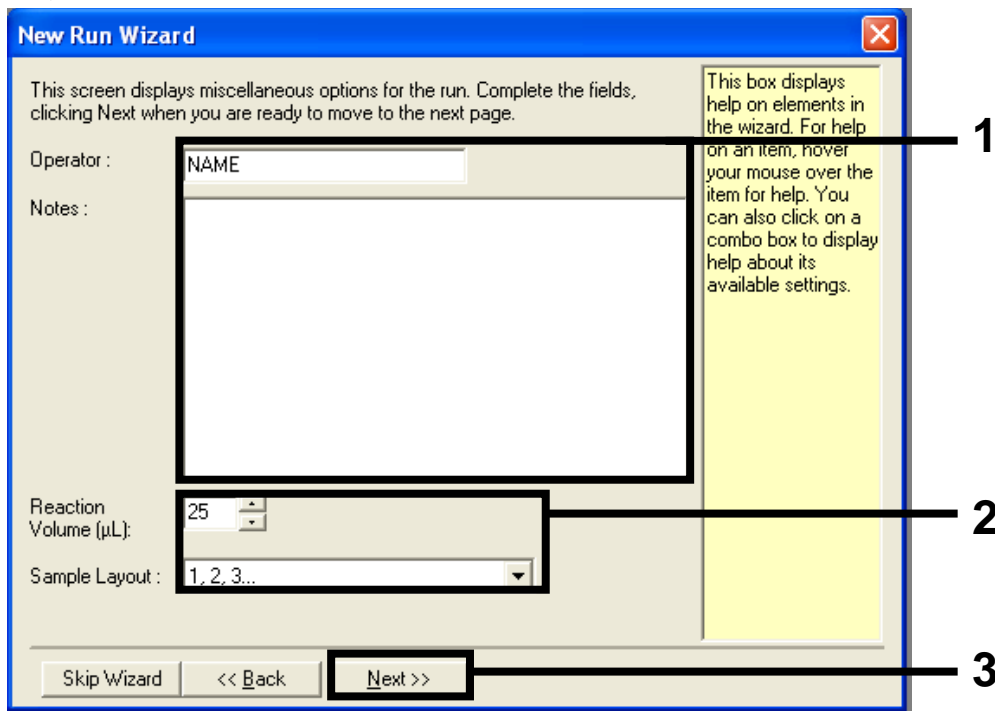

Figure 4. The "New Run Wizard" dialog box. 1 = "Operator" and "Notes" fields, 2 = "Reaction Volume" and "Sample Layout" dropdown menus, 3 = "Next" button.
3. Enter the name of the operator. Add any notes, check that the reaction volume is set to 25 and "Sample Layout" reads "1, 2, 3...". Click "Next" (Figure 4).